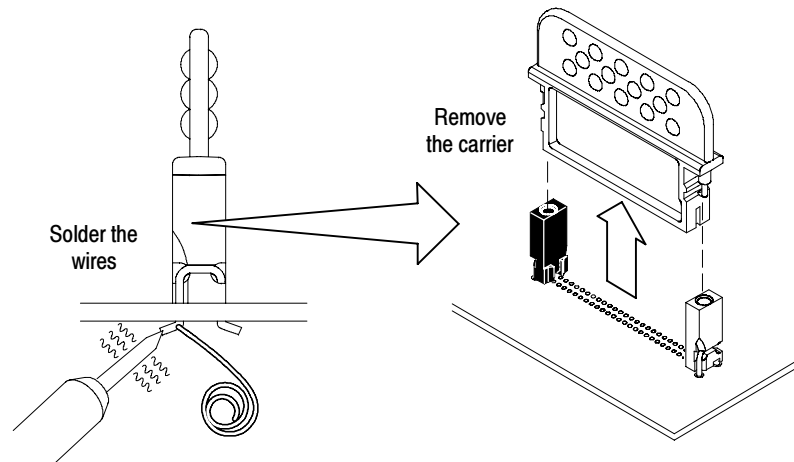

Figure 9: Soldering the retention posts in the PCB
4. Solder the posts to the PCB. (See Figure 9 on page 13.) The posts can be soldered from the top or bottom of the circuit board, but it is best to solder the bottom to avoid the heat-sinking effects of the posts on top.